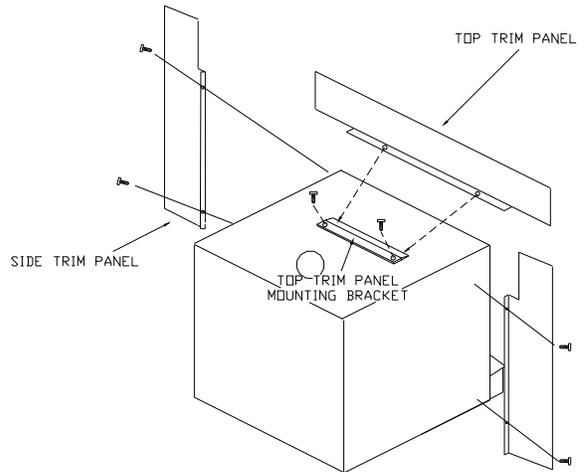

FIGURE 3 MOUNTING TRIM PANELS
1. Place side trim panels in place, flat against front face of fireplace. Mark down front edge of trim panel with a pencil to make a vertical reference line. (See Figure 3).
4. Mount side trim panels. (See Figure 3).